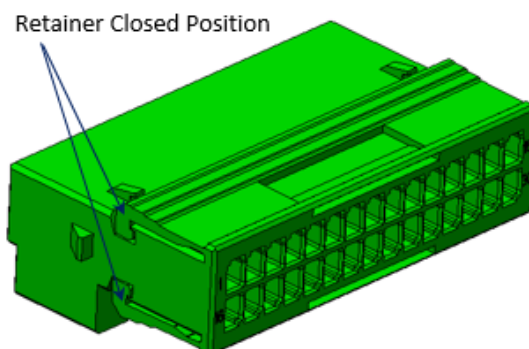

Figure 7
4. After all contacts have been inserted, shift the retainer until it is closed at both sides. See Figure 7 and 8.